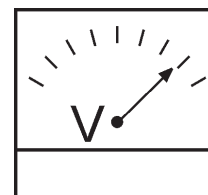

Figure 48. Voltmeter
- The generator's AC-voltmeter (Figure 48) will display the generator's output in **VOLTS**. If the voltage is not within the specified tolerance, use the voltage adjustment control knob (Figure 49) to increase or decrease the desired voltage.